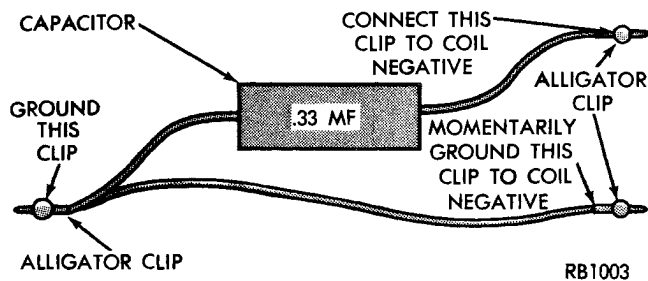
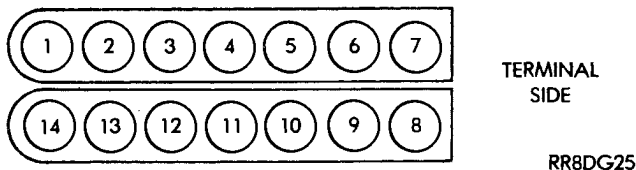

Fig. 3—Special Jumper to Ground Coil Negative
Fig. 4—14-Way Electrical Connector Single Module Engine Controller
(1) Determine that sufficient battery voltage (12.4 volts) is present for the cranking and ignition systems.
(2) Crank the engine for 5 seconds while monitoring the voltage at coil (+). If the voltage remains near zero during the entire period of cranking, see Group 14 for On-Board Diagnostic checks for the Single Module Engine Controller (SMEC) and auto shutdown relay.
(3) If voltage is at "near-battery" voltage and drops to zero after 1-2 seconds of cranking, see Group 14 for On-Board Diagnostic check for the distributor reference pickup circuit to the SMEC.
(4) If voltage remains at "near battery" voltage during the entire 5 seconds, remove the 14-way connector (Fig. 4) from the SMEC (with the key off). Check 14-way connector for any spread terminals.
(5) Remove the lead to coil (+) and connect a jumper wire between battery (+) and coil (+).
(6) Using the special jumper (Fig. 3), momentarily ground terminal #12 of the 14-way connector. A spark should be generated when the ground is removed.
(7) If spark is generated, replace the SMEC.
(8) If no spark is seen, use the special jumper to ground the coil (-) terminal directly.
(9) If spark is produced, repair wiring harness for an open condition.
(10) If no spark is produced, replace the ignition coil.